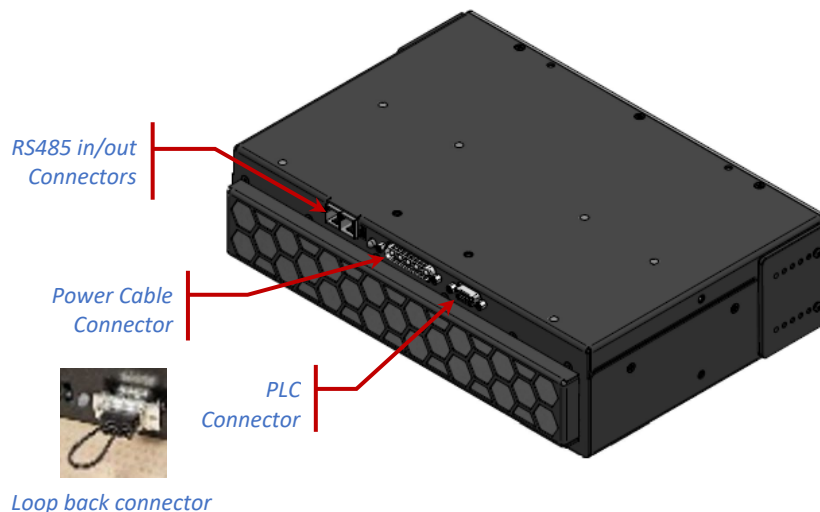

Figure 1 UV LED Head Connection Ports
3. Attach the male end of the power cable to the power supply unit and connect the female end of the power cable to the UV LED Head per Figure 1.
6. Attach the male end of the PLC cable to the UV LED Head (see Figure 1).
7. Connect the PLC loop-back connector to the PLC pass-through port (See Figure 1).